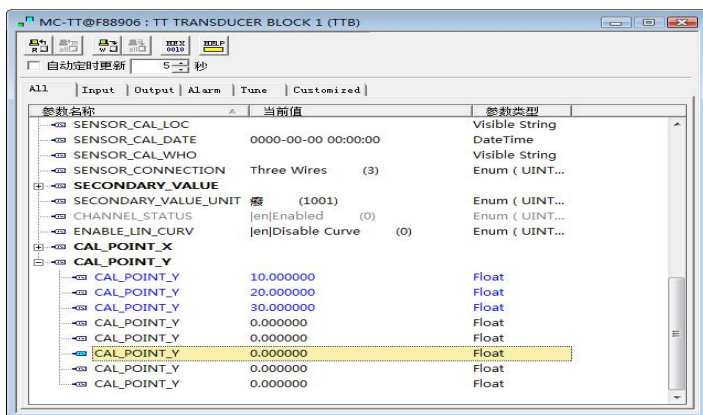

Figure 4.4 CAL\_CURVE\_Y configuration
- 1) Smart temperature transmitter supports 8 calibration point inputs—the parameter CAL\_CURVE\_Y array of the transducer block. User can write output value to calibrate into array in turn and select unit. For example, when for three-point interpolating calibration, 10, 20, 30 can be selected as the calibration points, the values are written in CAL\_CURVE\_Y array, shown as Figure 4.4.